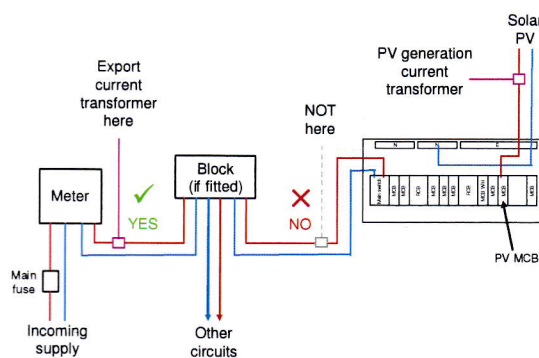

Figure 2: current transformer placement
1. Think about where to mount the power throttle, and discuss where to mount the controller with the user. The current transformer (CT) clips leads are terminated with standard audio phono plugs, and can be extended easily up to 10 m using standard audio extension leads. (DSM Energy Control Ltd. can supply these if required).
2. Make connections as shown below in Figures 1 to 3. Clip the current transformers either way around in their correct positions (see Figure 2).
Make the connections as shown in the two diagrams Figures 2 and 3 below. Clip on the current transformers as shown in Figure 2. Note that the connection block (labelled Block) is not always present. **Take care to ensure that the magnet surfaces are clean and engage properly.**